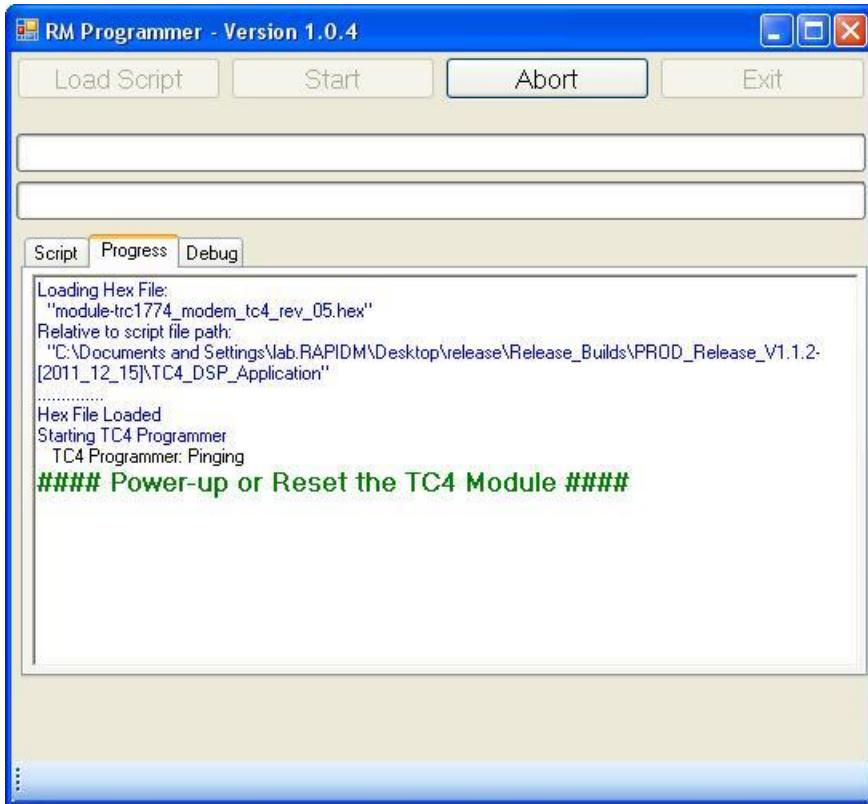

Figure 38: RM Programmer waiting for unit power cycle
- 6) The RM Programmer will load the HEX file and prepare to flash the TC4-DSP, when it is ready to begin it will prompt the user to restart the unit as shown in Figure 38.